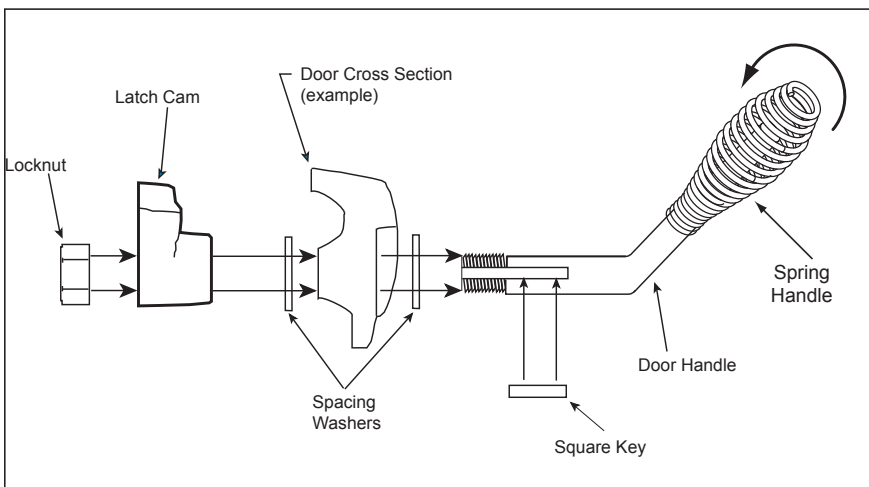

Figure 23.1
3. Install second washer(s) as shown in **Figure 23.1**.